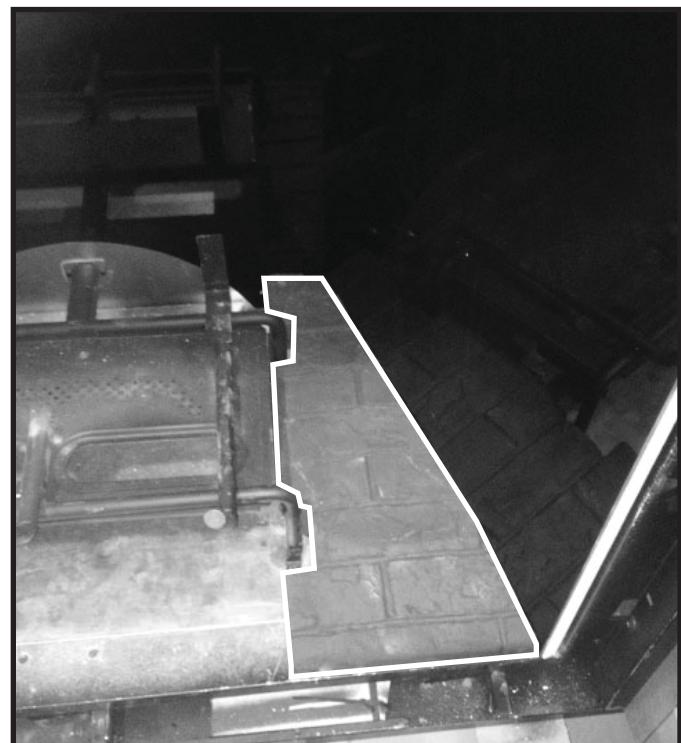
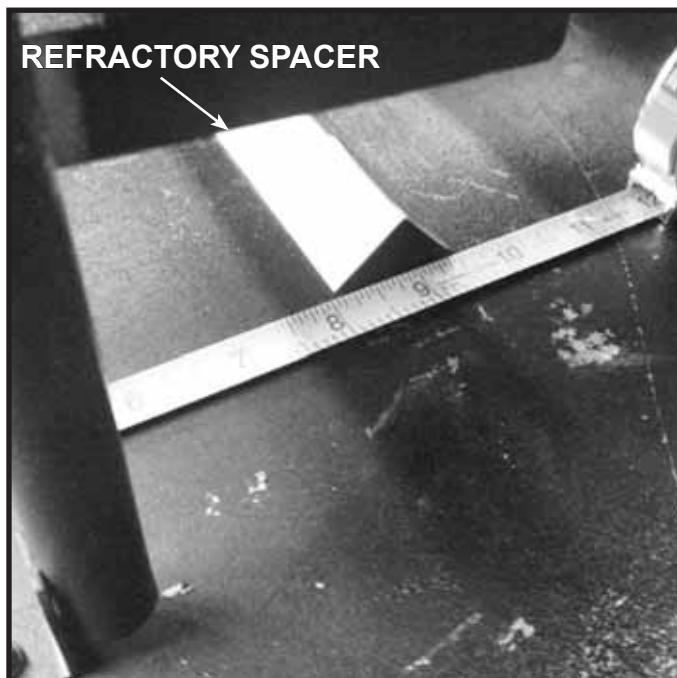

Figure 13. Right Base Refractory
Figure 16. Refractory Spacer Installed
- Install the right base refractory by setting the left edge on the firebox bottom. Place it adjacent to the grate and move the right side downward into place. Ensure that the front lip of the base refractory is flush with the firebox edge. See Figure 13 and Figure 16.
\* Outlines on Figures 13, 14, 15 and 17 show the correct placement of refractory. Refractory parts must be flush with both bases, spacers and panels.
15. Install refractory spacer approximately nine inches from the front edge of the appliance. Position it as shown in Figure 16 centered under the grate with the point facing up. The refractory spacer prevents turbulence under the center refractory. The absence of turbulence promotes sharper looking flames. See Figures 16 and 17.